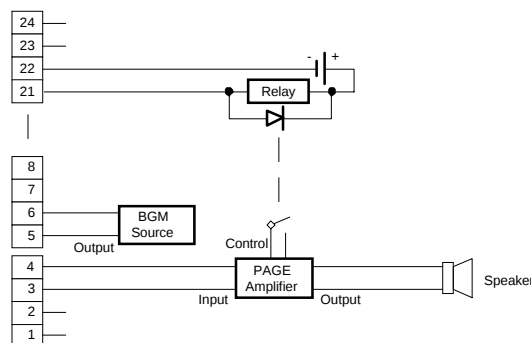

FIGURE 43. PAGING THROUGH A P.A. AMPLIFIER
7. Connect the page amplifier power control relay (SLAVE) to the PAGE CONTROL(+) and (-) pins on the punchdown block as illustrated in Figure 43.
2. Figure 43 illustrates the relay connections for P.A. system including the page amplifier, BGM amplifier, and zone speakers.